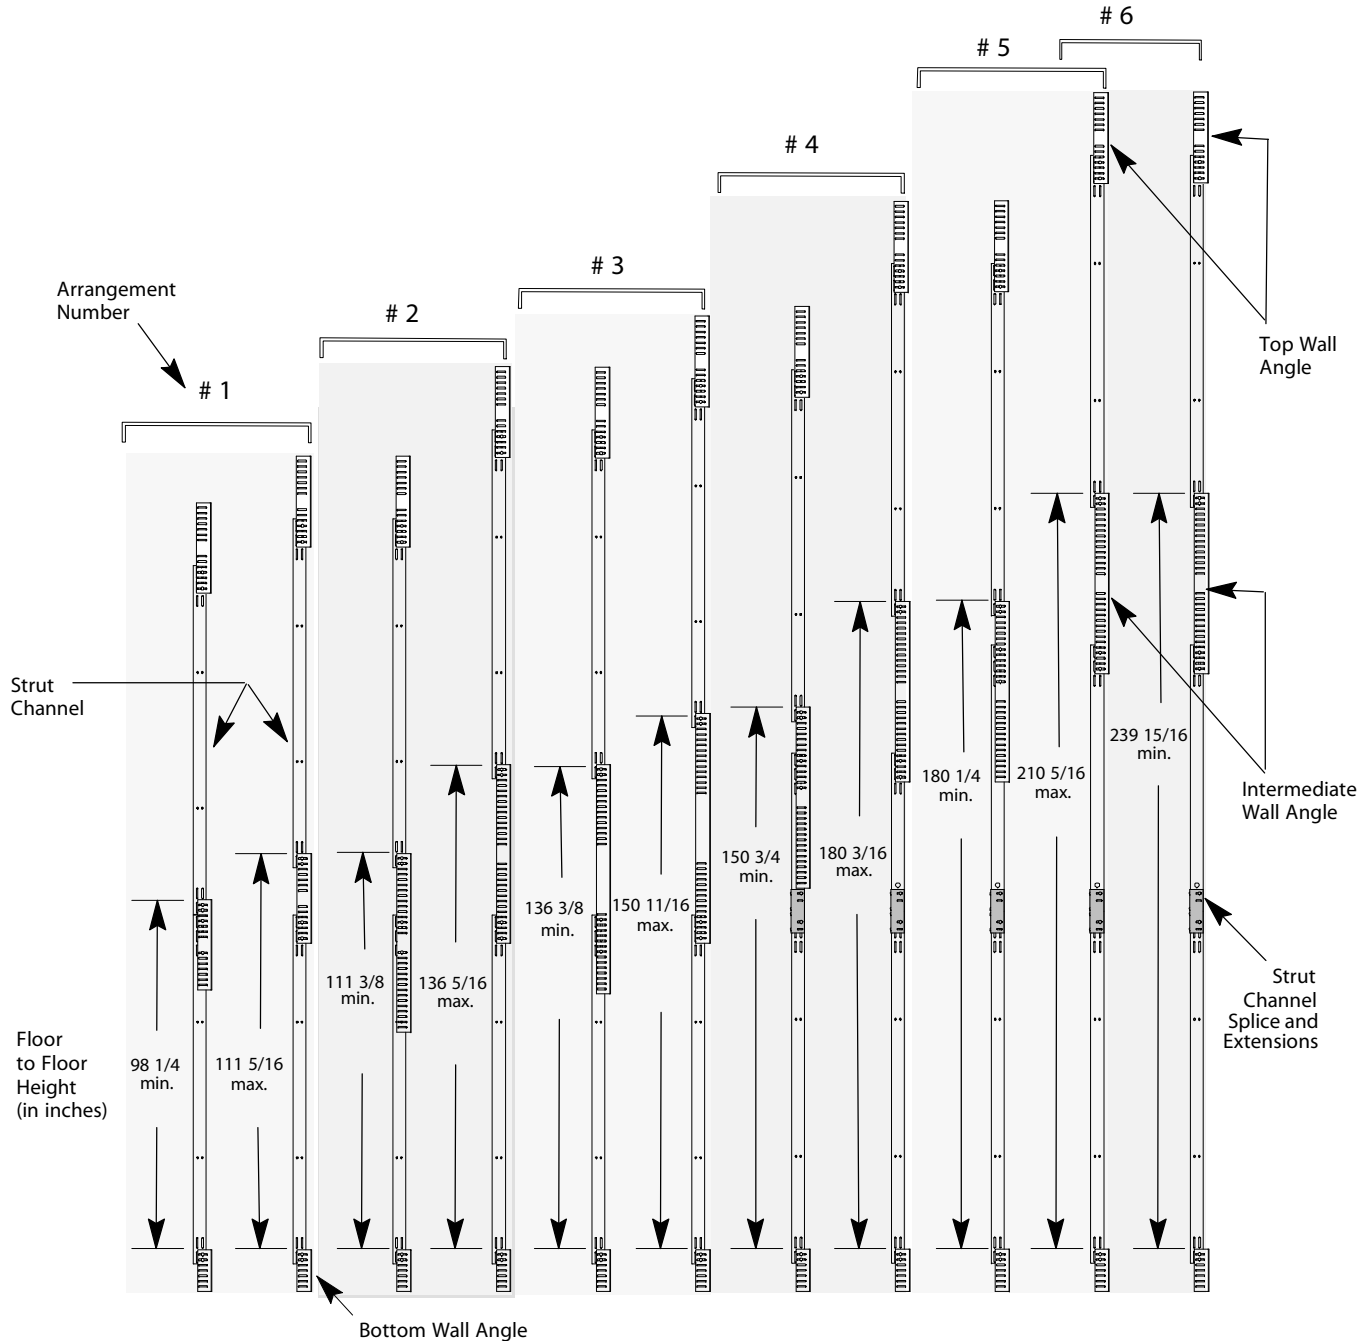

Figure 16 - Wall Angle Arrangements
1. Determine the part number and configuration for the splices. See Figure 16 (below) and Table 1 on page 23.
- Before installing any intermediate wall angles, see Figure 16 on page 22.
2. Select any required strut extension channels using Figure 16 on page 22 and Table 1 on page 23.